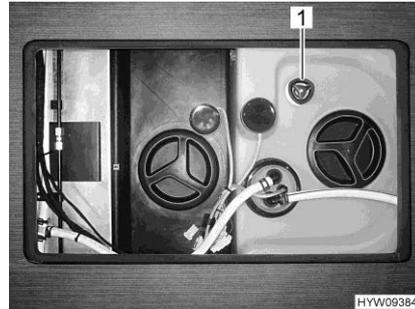

Fig. 194 Rotary handle (water tank)
- Turn the rotary handle (Fig. 194,1) on the water tank in a clockwise direction as far as it will go.
- Turn the rotary handle (Fig. 194,1) on the water tank in an anticlockwise direction as far as it will go. Excess water will drain away leaving approx. 20 litres in the tank.
- Turn the rotary handle (Fig. 194,1) on the water tank in an anticlockwise direction as far as possible beyond the resistance to fully open the drainage opening.